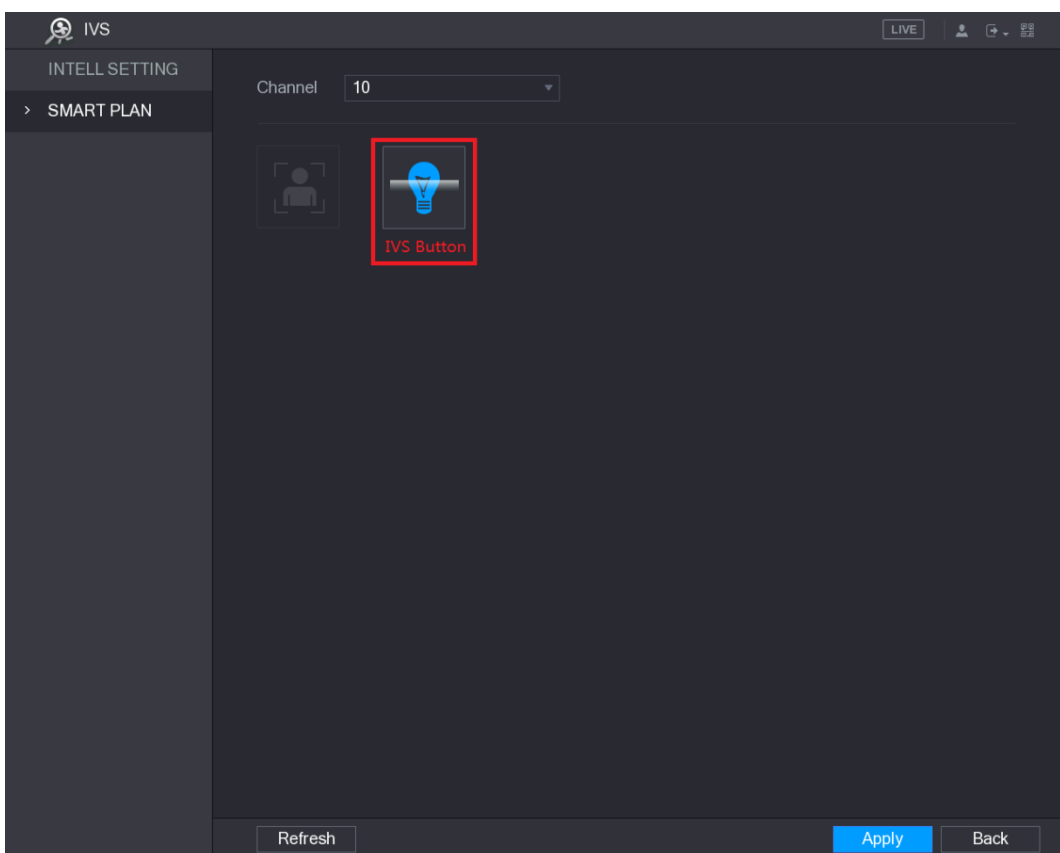

Figure 5-150
- For the IP camera without preset, see Figure 5-150.